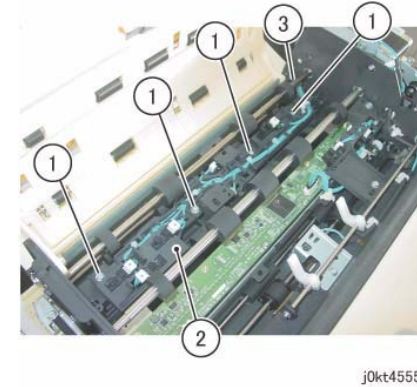

Figure 2 Remove the Sensor Bracket
6. Remove the Sensor Bracket. (Figure 2)